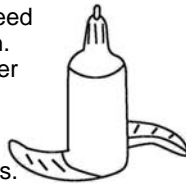

Fig. 18
2. Insert the whipper attachment and press firmly into place. (Fig. 18)